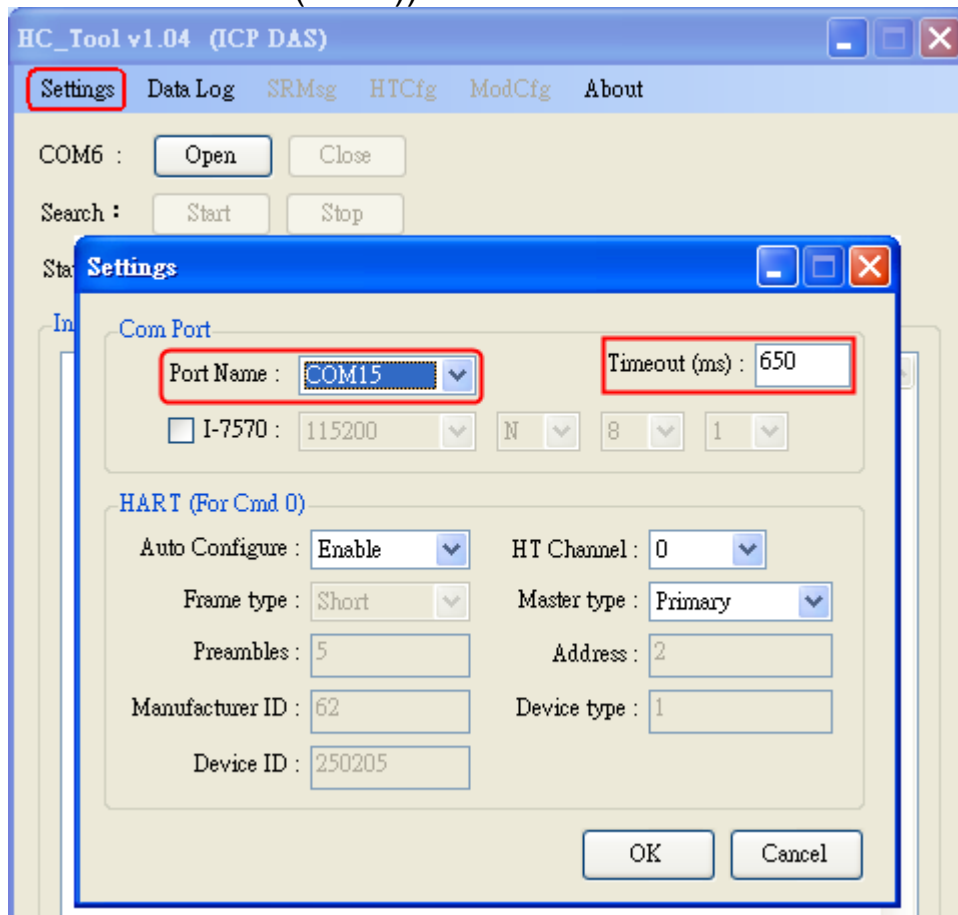

Figure 4-2: Set Serial Port No.
Please click “**Settings**” item to open setting window of serial port and HART parameters like Figure 4-2.
- (1) Please select serial port no. of PC like Figure 4-2.
- (2) “**Timeout**” Field: HART command Timeout value. The default value is 650ms. (Supported by HC_Tool v1.04 or newer. When using HART pair-connection function, suggest to set the timeout value to be 2000 (2 sec))